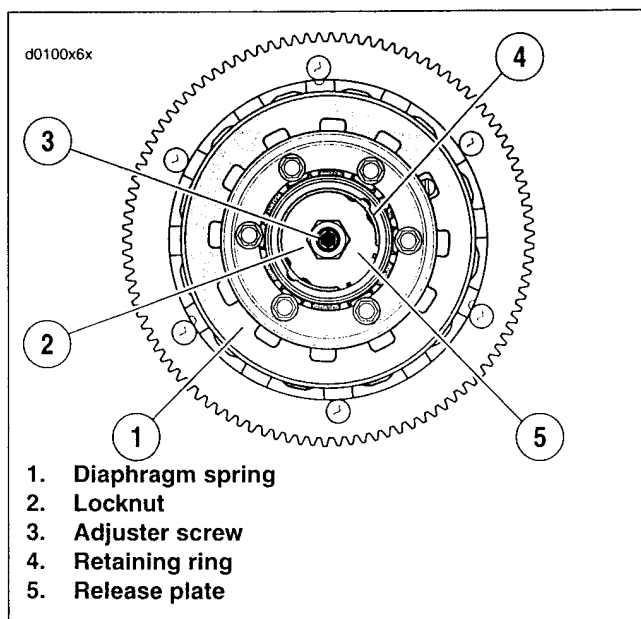

Figure 6-14. Clutch
8. See Figure 6-14. Install release plate (5) with locknut (2) and adjuster screw (3) into clutch hub bore. The word "OUT" stamped on the release plate should face outward.